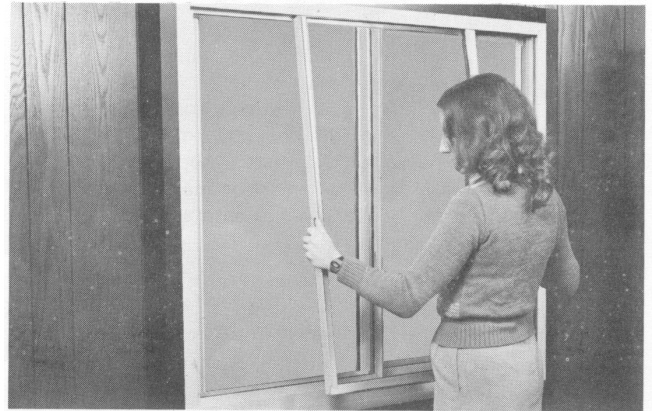

Figure 4
4. Pull the bottom of the sash to the inside to clear the bottom of the frame, and lower sash to remove (Figure 4).